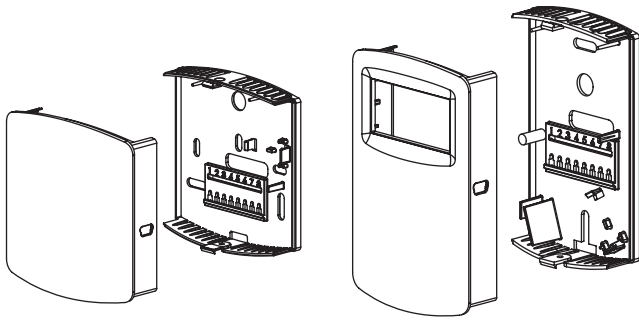

Figure 1
1. Push tab on top and bottom of the back plate and lift the cover from the back plate. (See Figure 1).
Remove the cover of the unit as shown in Figure 1. The Current/Voltage select switch is located on the back of the circuit board. Set the switch "IOUT" for current, "VOUT" for voltage.
To access the DIP SWITCH, remove the cover of the unit as shown in Figure 1. The DIP SWITCH is located on the back of the circuit board as shown in Figure 4.